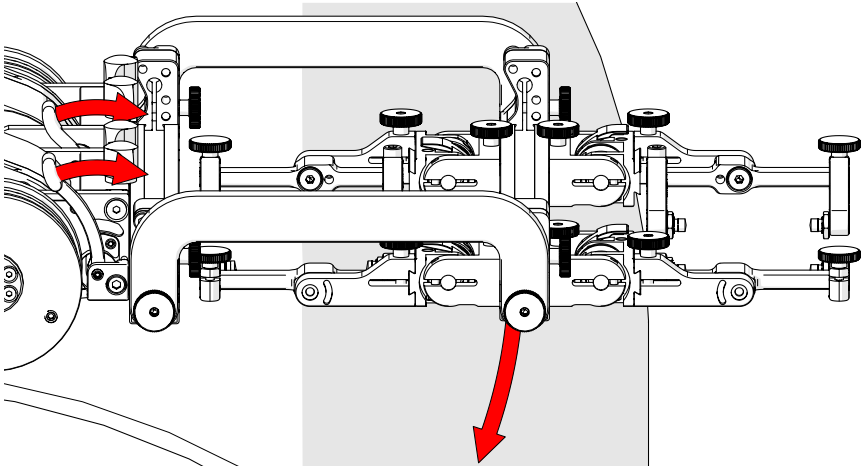

Fig. 213 - Align swivel mount with scan surface
4. Release the two swivel mount levers (Fig. 213) to position the swivel mount parallel to the scan surface (Fig. 214). When alignment with scan surface is achieved, lock the crawler swivel mount levers.